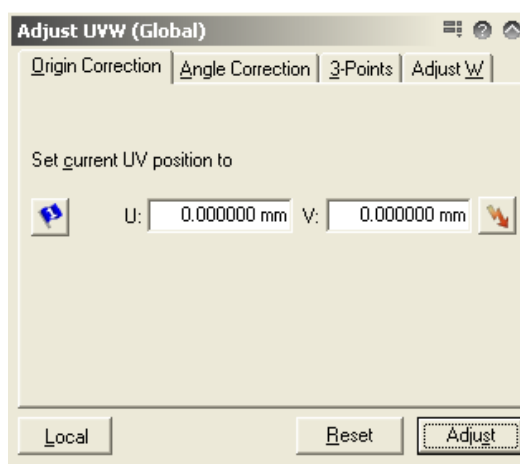

Figure 16: Origin correction.
5. Return the stage to the U,V=0,0 position for example using the 'lightning' button in the Adjust UVW tab (Figure 16).